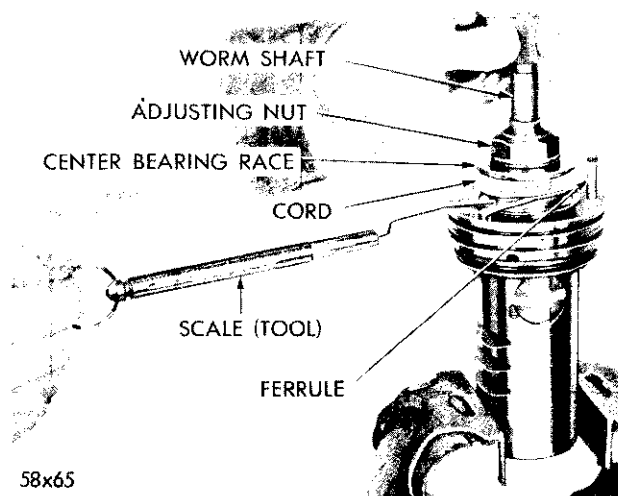

Fig. 42—Checking Center Bearing Race Preload
(5) Loosen the adjusting nut. Place several rounds of cord around the center bearing race (Fig. 42). Make a loop in one end of the cord and hook the loop of a distributor breaker arm spring scale Tool MTU-36 in the cord loop. Pulling the cord will cause the bearing race to rotate. Retighten the worm bearing adjusting nut while pulling on the cord with the scale. If the adjusting nut is tightened